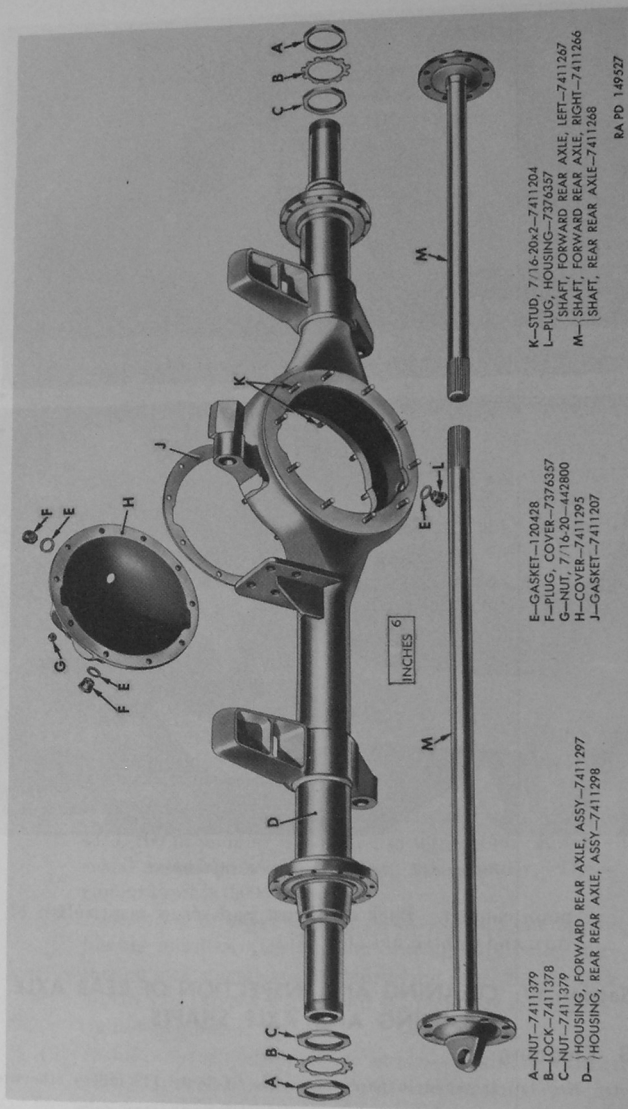

Figure 148. Rear axle housing and associated parts.
Note. Key letters noted in parentheses are in figure 148 unless otherwise indicated.
a. Installation of gasket.—Apply light coating of plastic type gasket cement to both sides of gasket ((*J*), fig. 148); then position gasket over studs and against housing.
When installing cover ((*H*), fig. 148) on rear axle, make certain that oil filler hole marked "REAR OIL LEVEL" is upright (not upside down). Position cover over studs and install ten $\frac{7}{16}$ -20 nuts ((*G*), fig. 148) on studs and tighten to 45 to 55 pounds.